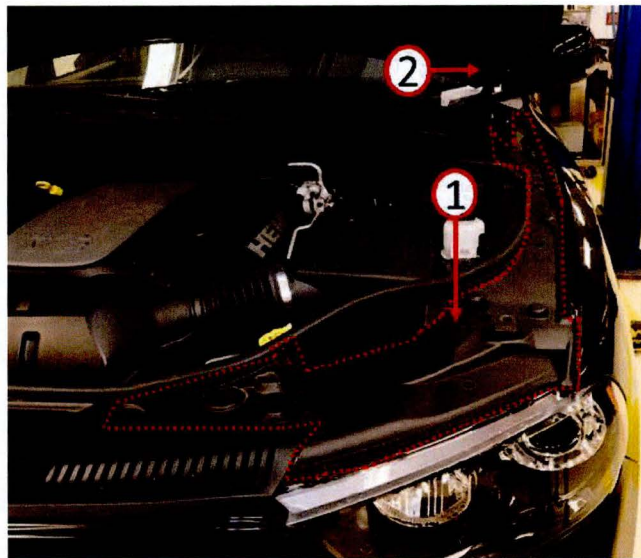
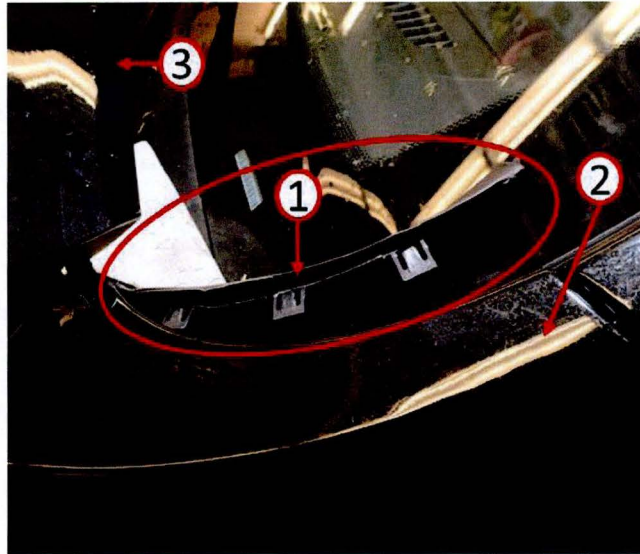

Fig. 1 Remove Fender Closeout
Fig. 2 Remove Cowl Corner To Fender Seal
7. Open the hood and remove the driver side upper fender closeout panel (Fig. 1).
8. Pull back the corner of the cowl to fender closeout (Fig. 2).
10. Reinstall the corner cowl to fender closeout (Fig. 2) and upper fender close out panel (Fig. 1).